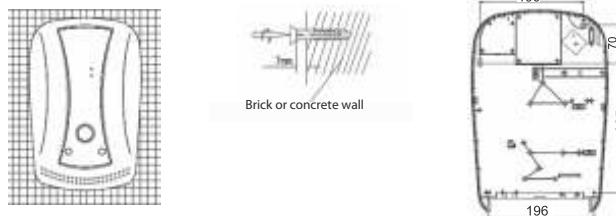

Fig. 3
- Mark points for holes according to Fig.3.
- Turn screws at the top and make sure that there is certain distance between the screw head and wall (refer to Fig.3).